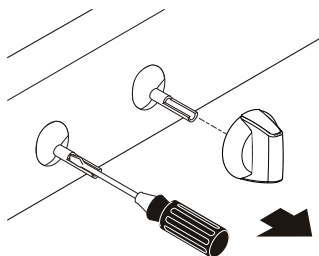
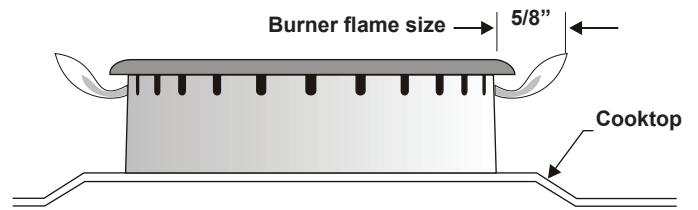

Fig. 17
Fig. 18
- Insert a thin-bladed screwdriver into the hollow valve stem and engage the slotted screw inside. Flame size can be increased or decreased with the turn of the screw. (See Fig. 17 and Fig. 18).